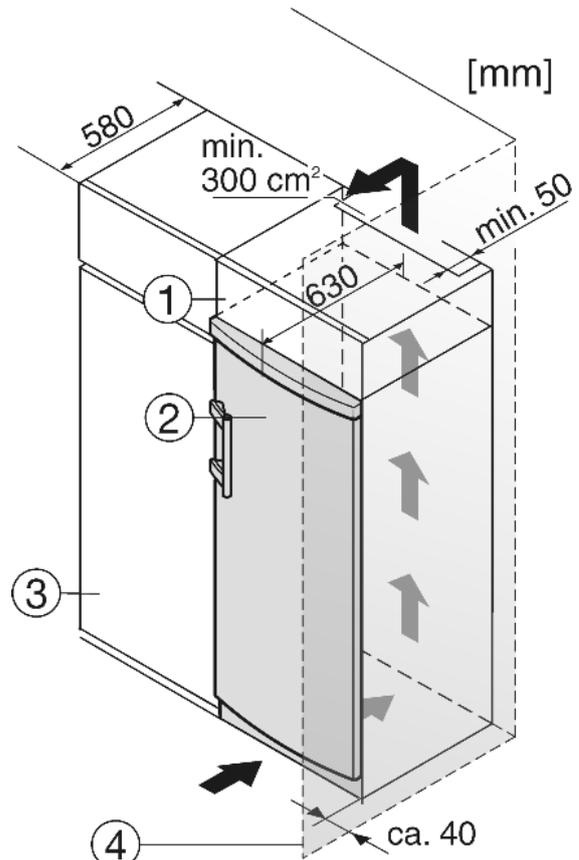

Fig. 8
- (1) Stack cabinet
- (2) Appliance
- (3) Kitchen cabinet
- (4) Wall
The appliance can be built into kitchen units. A top cupboard Fig. 8 (2) can be added above the appliance in order to bring the appliance Fig. 8 (1) up to the height of the fitted kitchen units.
When retrofitting with kitchen cabinets (max. depth 580 mm) the appliance can be installed directly next to the cabinet Fig. 8 (3). The appliance door projects 34 mm from the front of the kitchen cabinet at the side and 50 mm at the centre of the appliance. This is so that it can be opened and closed easily.
If the appliance is installed with the hinges next to a wall *Fig. 8 (4)*, the distance between appliance and wall has to be at least 40 mm. This corresponds to the projection of the handle when the door is open.